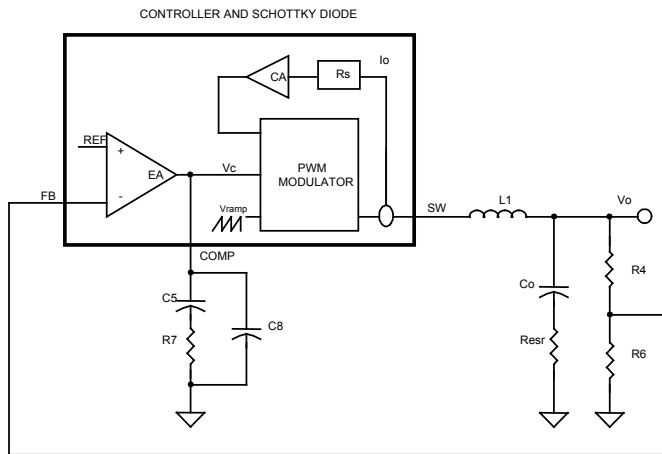

Figure 7. Block diagram of control loops
The goal of compensation is to shape the frequency response of the converter so as to achieve high DC accuracy and fast transient response while maintaining loop stability (see Figure 7).
The block diagram in Figure 7 shows the control loops of a buck converter with the SC4525C. The inner loop (current loop) consists of a current sensing resistor ( $R_s=3.53m\Omega$ ) and a current amplifier (CA) with gain ( $G_{CA}=18.5$ ). The outer loop (voltage loop) consists of an error amplifier (EA), a PWM modulator, and a LC filter.
For a converter with switching frequency  $F_{SW}$ , output inductance  $L_1$ , output capacitance  $C_o$  and loading R, the control ( $V_c$ ) to output ( $V_o$ ) transfer function in Figure 7 is given by: